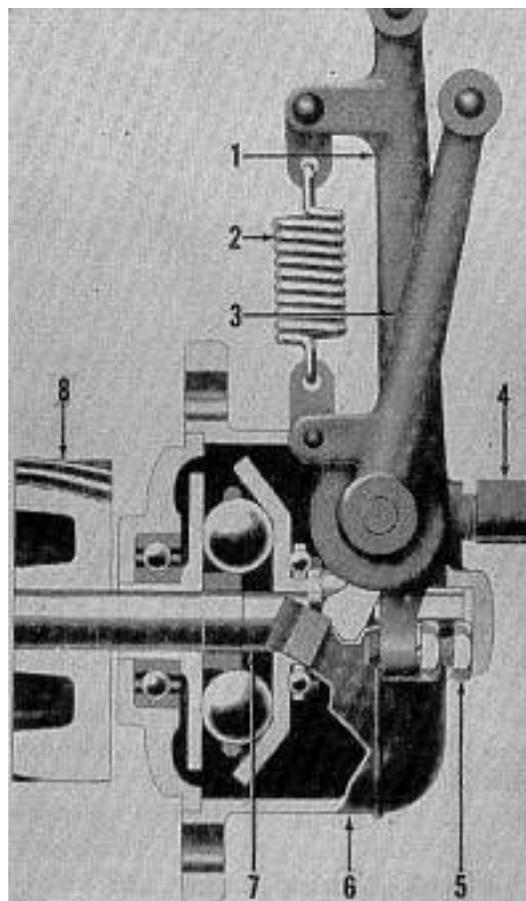
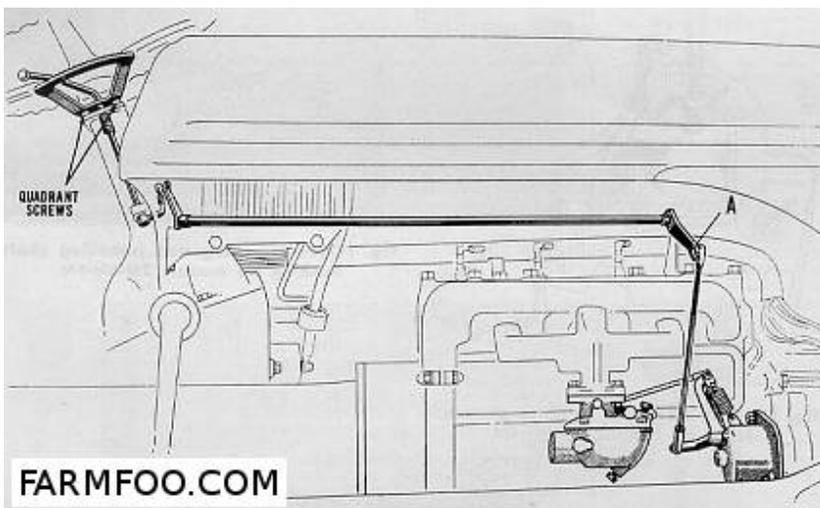
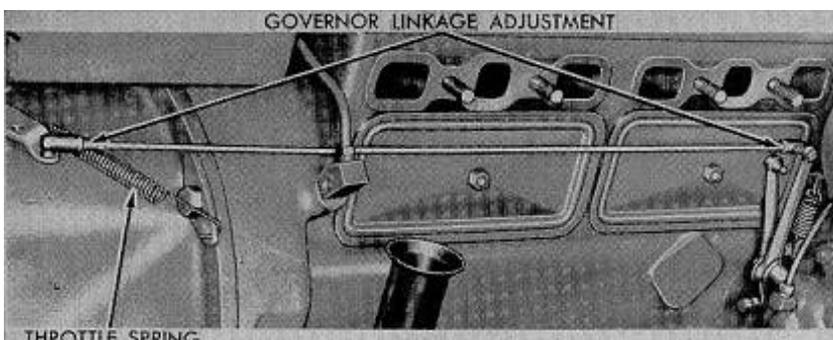

Fig. F028 – Novi ball type governor used on models 2N-8N-9N tractors.
Fig. F030 - Showing point (A) where governor linkage on models 2N and 9N is to be held while bending linkage to prevent over speeding of engine.
Fig. F031 - Showing point of adjustment on model 8N governor linkage to correct an over speeding condition.
44. **ADJUSTMENT.** The governor spring (2 – Fig. F028) should be a snug fit but should have no end play and no pre-load. Spring may be adjusted by bending the loop on the spring with pliers. Check engine speed at Power Take-Off shaft or belt pulley, after engine is warmed up. Correct governed speed with hand throttle lever in last quadrant notch or wide open is 727 to 800 PTO shaft rpm, 2000 to 2200 engine rpm or 1358 to 1494 belt pulley rpm.
If crankshaft speed exceeds 2200 rpm or power take-off speed exceeds 800 rpm with throttle lever in last quadrant notch, turn in maximum speed stop screw (Fig. F028 - 5) until speed is correct. If engine overspeeds before hand throttle is wide open, adjust model 2N – 9N linkage by holding throttle shaft lever at “A”, Fig. F030 and bending linkage until speed is correct, or by lengthening governor link rod on model 9N, as shown in Fig. F031.